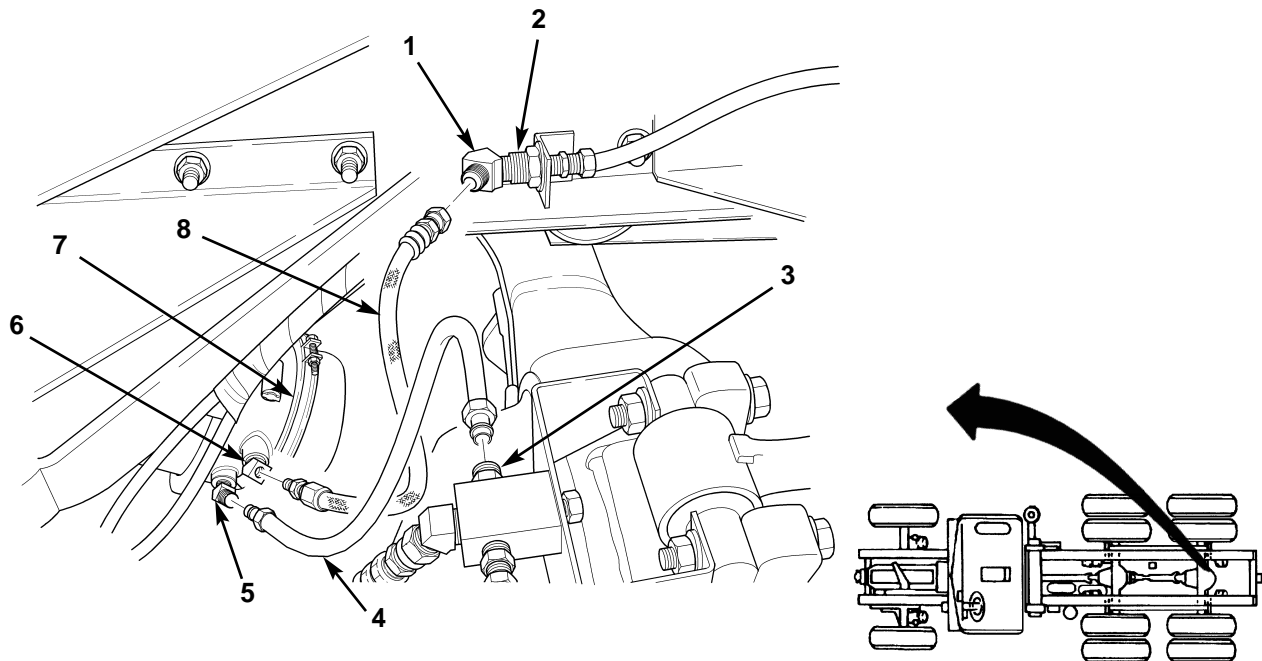

Figure 8. Installing Tube and Hose Assembly on Service Brake Chamber.
6. Install tube (figure 8, item 4) on mountable tee adapter (figure 8, item 3) and elbow (figure 8, item 5) on parking brake port of spring brake chamber (figure 8, item 7).
7. Install hose assembly (figure 8, item 8) on elbow (figure 8, item 6) at service brake port of spring brake chamber (figure 8, item 7) and flared elbow (figure 8, item 1) on bulkhead (figure 8, item 2).